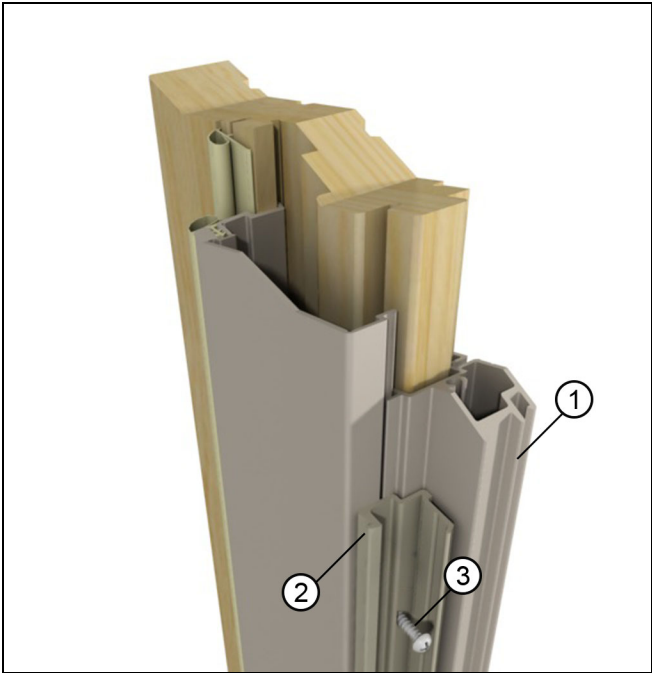

Figure 6
- 2. Make sure the jamb adapter is seated and tight against the jamb and part stop. Using the pre-drilled holes in the adapter as a guide, drill 1/16" (2) pilot holes. Use the #4 x 3/4" self tapping pan head screws to fasten the jamb adapter to the cladding through the pre-drilled holes in the jamb adapter. See Figure 6.